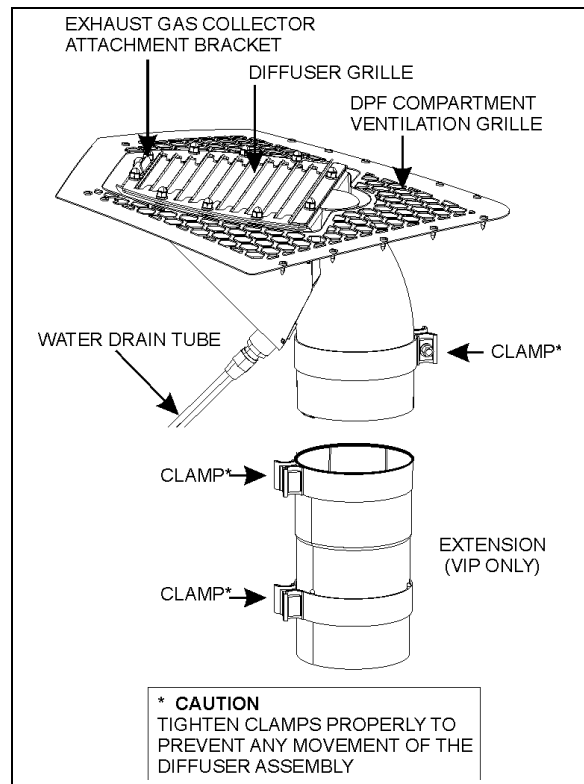

FIGURE 9: DIFFUSER ASSEMBLY OVERVIEW
5. Reinstall the DPF compartment grille. Put a small quantity of Sika 221 on screws (fig.9).